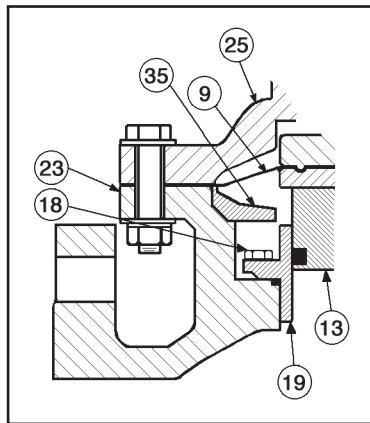

Figure 5: Opt-81 — Composition Diaphragm Construction, 2" (DN50) and Smaller
1. A supported diaphragm (9) construction is designated as Opt-81 High Outlet Pressure. Both upwards and downwards directions are protected against pressure reversal; i.e. pressure on one side of diaphragm (9) with no pressure on other side of diaphragm (9).
2. Body Sizes 2" (DN50) and Smaller; Composition Diaphragm. (See Figure 5.)
- a. Body (23) is specially machined with a shelf to capture a lower diaphragm support ring (35).
- b. Cover dome (25) is specially machined to provide a surface for the upper diaphragm (9) support. Lower diaphragm support ring (35) is captured by its location. Upon removal of cover dome (25) and diaphragm (9), the lower diaphragm support ring (35) can be lifted upwards and out of the body (23) cavity.